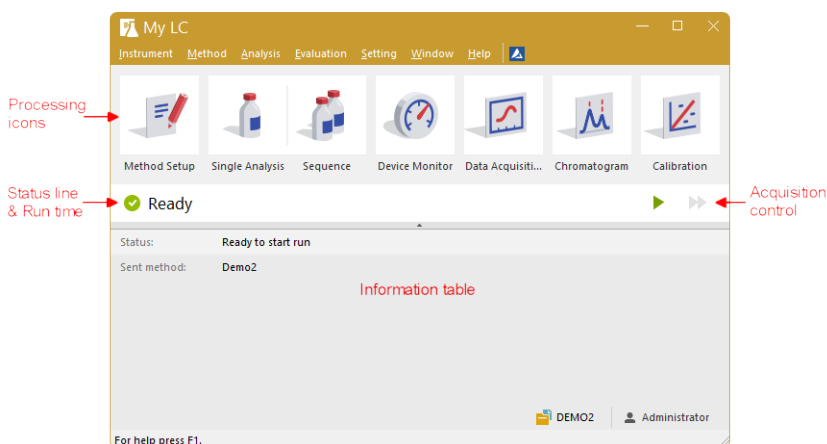
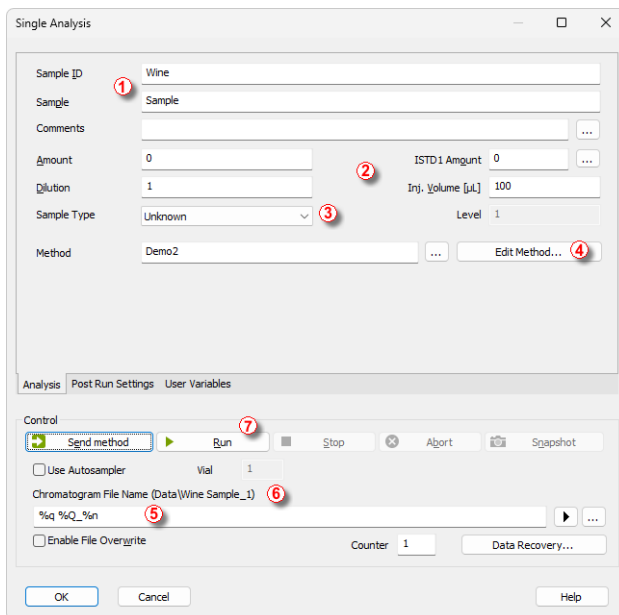

Fig. 11: Instrument window
Fig. 12: The Single Analysis dialog
- The *Instrument* window will open; **Fig. 11** on pg. 19. shows the most important icons in the *Instrument* window. During the tour, we will review all windows opened by these icons.
- The fields in the *Analysis* section contain information about the sample. You may set the values in the fields as shown in **Fig. 12** on pg. 20., as typical analysis settings.
- *Sample ID* and *Sample* fields ① are only informational.
- Values in *Amount*, *Dilution*, *ISTD Amount* and *Inj. Volume* fields ② are used for further calculations.
- Choosing the *Standard* from the *Sample Type* menu ③ and entering a value in the *Level* field would mark this sample as the calibration standard and save the chromatogram into the CALIB subdirectory.
- The measurement of the sample will be performed according to the actual modification of the template method opened in the *Instrument* window. The *Edit Method...* button ④ serves to change the parameters of the actual template method. Click the button to open the *Method Setup* dialog and check the setting of the *Autostop* parameter (*Autostop* should be enabled) and *Run Time* (7.5 minutes). Return to the *Single Analysis* dialog by pressing the *OK* button.
- **Chromatogram File Name** (5) field is used for entering the file name of the resulting chromatograms. It is possible to use plain text together with variables adding the time, date, sample name or other parameters to create a unique chromatogram name. The resulting name can be seen just above the field (6) in parentheses.
- For the demonstration purposes, you may set the values in the fields as shown in **Fig. 12** on pg. 20. as typical analysis settings. Once this is performed, your instrument window will be the same as shown in **Fig. 11** on pg. 19.
- After the parameter setup, you can run the analysis by clicking the **Run** button (7) . The **Single Analysis** dialog will close now. If you open it again, you will see three additional buttons (**Stop**, **Abort**, **Snapshot**) that will allow you to stop or abort the analysis or take snapshots (see the chapter "**Data Acquisition window**" on pg. 21.).
- In the **Instrument** window look at the **Status line** (see **Fig. 11** on pg. 19.). The acquisition is now signaled by the **RUNNING** state and the actual run time shown there.
- To see the data acquisition in process and control it if necessary, click the **Data Acquisition** (8) icon (see **Fig. 11** on pg. 19.) to enter the **Data Acquisition** window.
- Depending on your station's configuration, one or more signals may be displayed. The number of detectors (signals) and their names can be seen in the upper right corner of the graph (9) .